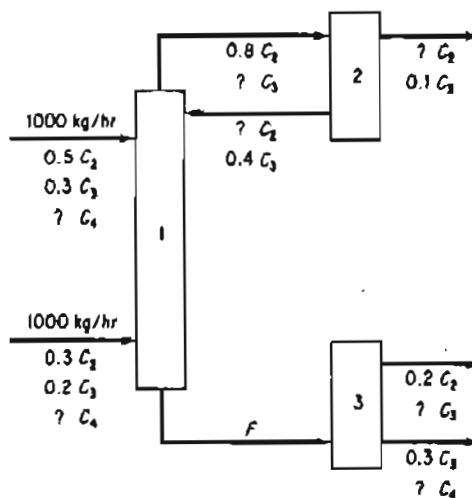

Figure P11.5
- **11.5** A distillation process is shown in Figure P11.5. You are asked to solve for all the values of the stream flows and compositions. How many variables and unknowns are there in the system? How many independent material balance equations can you write? Explain each answer and show all details how you reached your decision. For each stream (except F , the only components that occur are labeled below the stream.